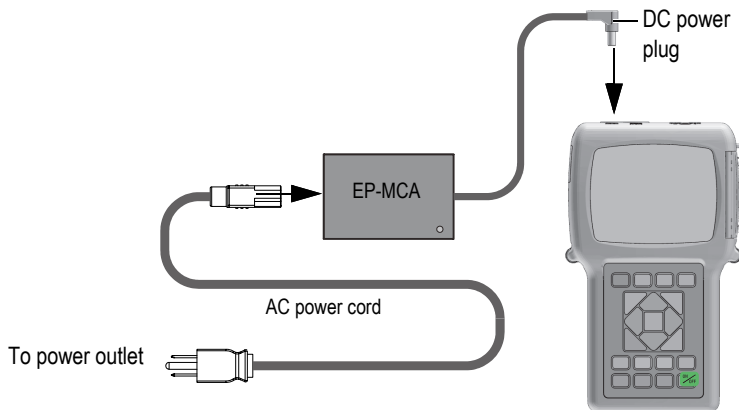

Figure 2-2 Connecting the charger/adaptor
1. Connect the AC power cord to the charger/adaptor (P/N: EP-MCA [U8767042]), and to an appropriate power outlet (see Figure 2-2 on page 46).